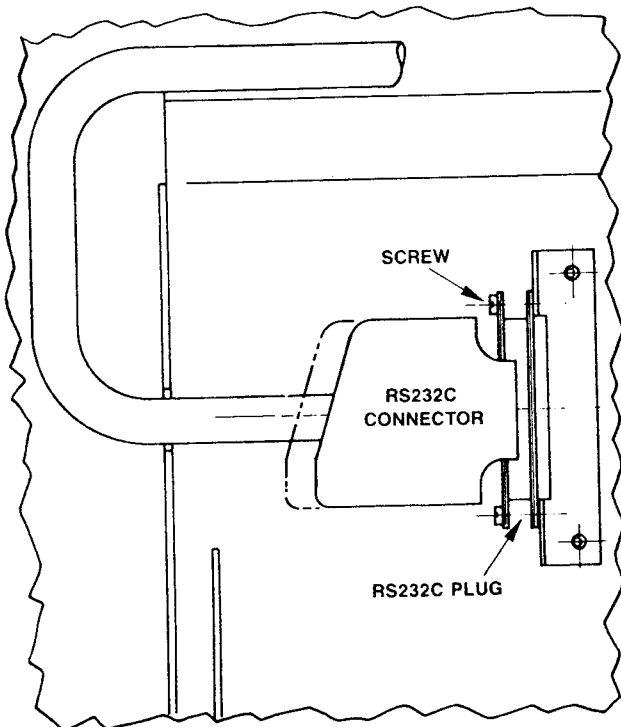

FIGURE 18—MSMU/RS 232C CONNECTOR
07.25 The RS 232C connector is located behind the metal faceplate of the MSMU, making it necessary to connect the printer cable before the PCB is installed in the MKSU. Secure the printer connector using the two screw holes provided on the PCB connector (Figure 18).